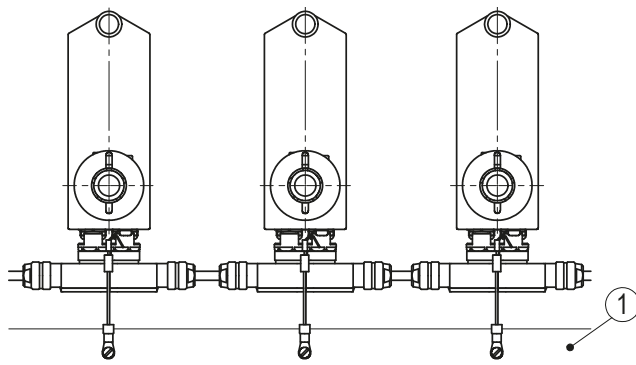

Fig. 9: Ground bar
For protection against interference, the screens of the signal lines and the power line must be connected on both sides. Potential differences cause inadmissible currents on the screen. Apply the PE connection ① to the protective conductor potential below the connecting plugs (see Fig. 5). Use 6.3 mm flat connectors with short strands 2.5 ... 4 mm² (not in the scope of delivery). For multiple actuators we recommend connecting the earthing to a ground bar ① (see Fig. 9).